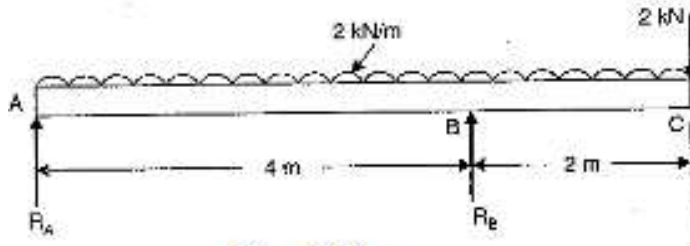

Fig. 3(b)
- b. Draw SF and BM diagrams for the over-hanging beam carrying uniformly distributed load of 2 kN/m over the entire length and a point load of 2 kN as shown in Fig. 3(b). Locate the point of contra flexure.